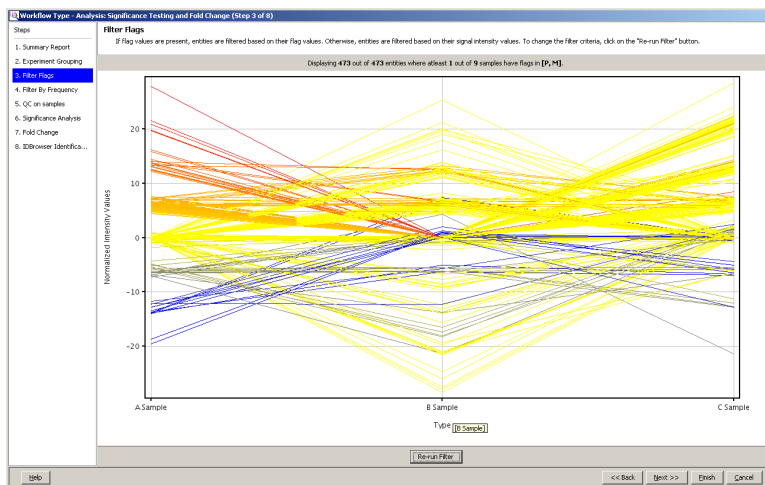
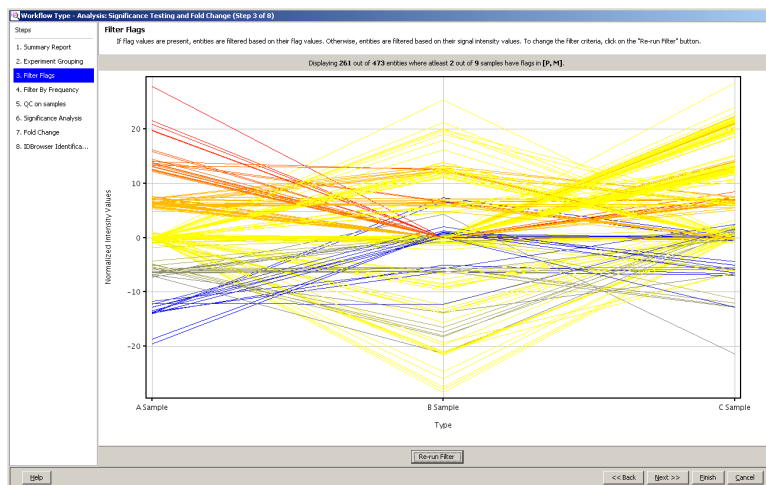
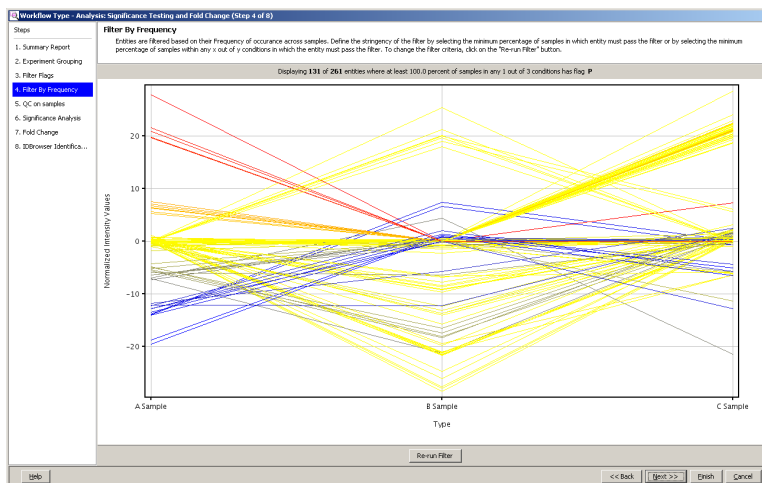

Figure 44 Filter Flags page of the Analysis: Significance Testing and Fold Change (Step 3 of 8) workflow before filtering “one-hit wonders”
Figure 46 Filter Flags page of the Analysis: Significance Testing and Fold Change (Step 3 of 8) workflow after filtering “one-hit wonders”
Figure 47 Filter by Frequency page of the Analysis: Significance Testing and Fold Change (Step 4 of 8) workflow
- 7 Review the profile plot and repeat the **Re-run Filter** until you obtain the best results for your experiment. Compare the entity summary above each profile plot in Figure 44 and Figure 46 on page 104; the displayed number of entities declined from 473 to 261 when “one-hit wonders” were removed.
- 6 Review the profile plot and repeat the **Re-run Filter** until you obtain the best results for your experiment. Compare the entity summary above each profile plot in Figure 46 on page 104 and Figure 47; the displayed number of entities declined from 261 to 131.